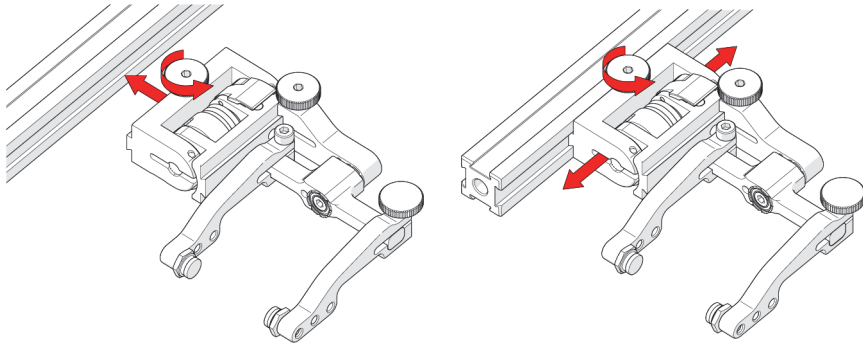

Figure 2-25 Mounting and adjusting a probe holder on the frame bar
1. Rotate the probe holder adjustment knob, and attach the probe holder to a frame bar (see Figure 2-25 on page 55).
2. Use the probe holder adjustment knob to position the probe holder along the frame bar (see Figure 2-25 on page 55).